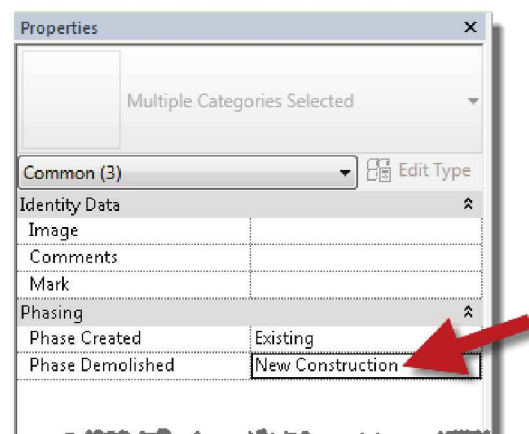

FIGURE 17-3.9
18. With the three elements selected, set the Phase Demolished to **New Construction** (Figure 17-3.9).